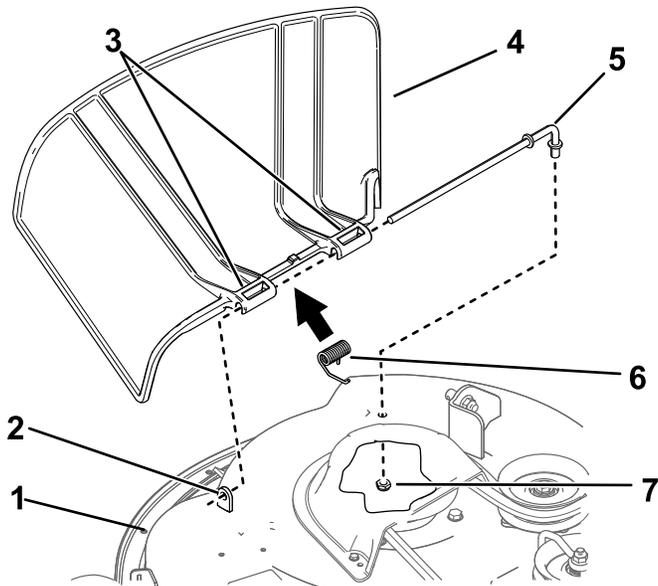

Figure 66
1. Remove the nut (3/8 inch) from the rod under the mower (Figure 66).
2. Slide the rod out of the short stand-off, spring, and grass deflector (Figure 66).
4. Install the new grass deflector (Figure 66).
7. Slide the rod through the second grass-deflector bracket (Figure 66).
9. Secure the rear end of the rod into the mower with a nut (3/8 inch) as shown in Figure 66.